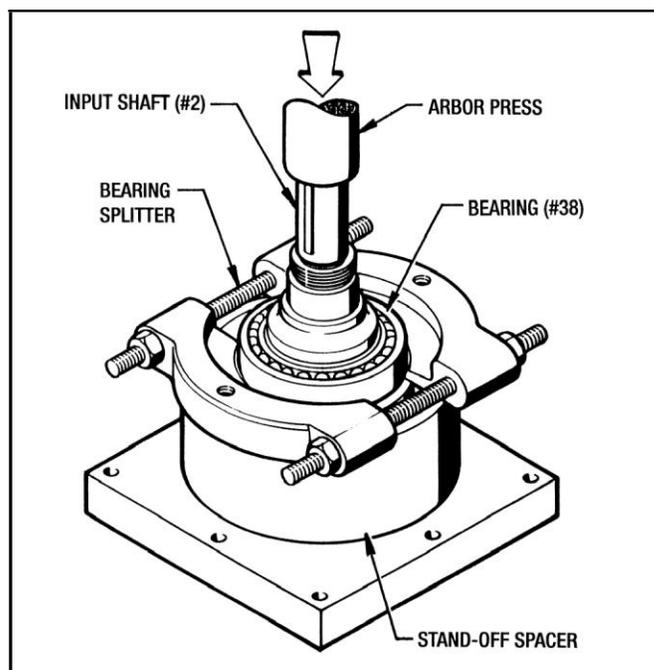

Figure 7.5 - Removing Bearing From Input Shaft
2. Remove (6) Screws (#63) and remove the Bearing Retainer (#7) taking care not to damage the lip of the Oil Seal (#31).
8. Use a Bearing Splitter to remove Bearing (#38) from the Input Shaft. (See Figure 7.5)
2. Remove (6) Screws (#110) and remove the Bearing Retainer (#207) taking care not to damage the lip of the Oil Seal (#208).